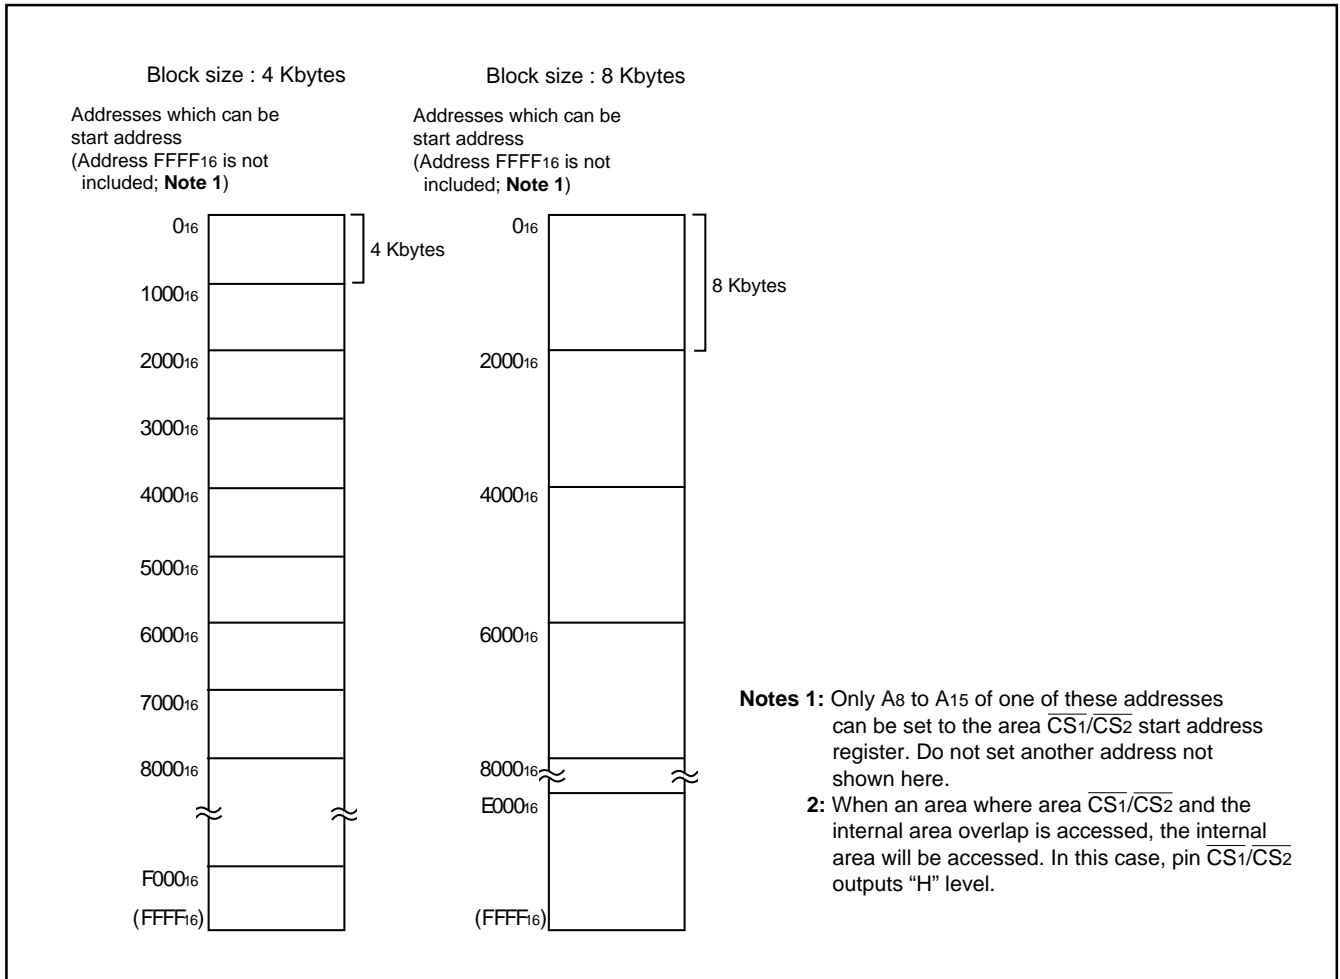

Fig. 32 Area  $\overline{CS}_1/\overline{CS}_2$  (mode 1)
**Note:** The start address setting depends on the block size, which has been selected by the area  $\overline{CS}_1/\overline{CS}_2$  block size select bits (bits 0 to 2 at address 8316, bits 0 to 2 at address 8516). See Figures 32 and 33.